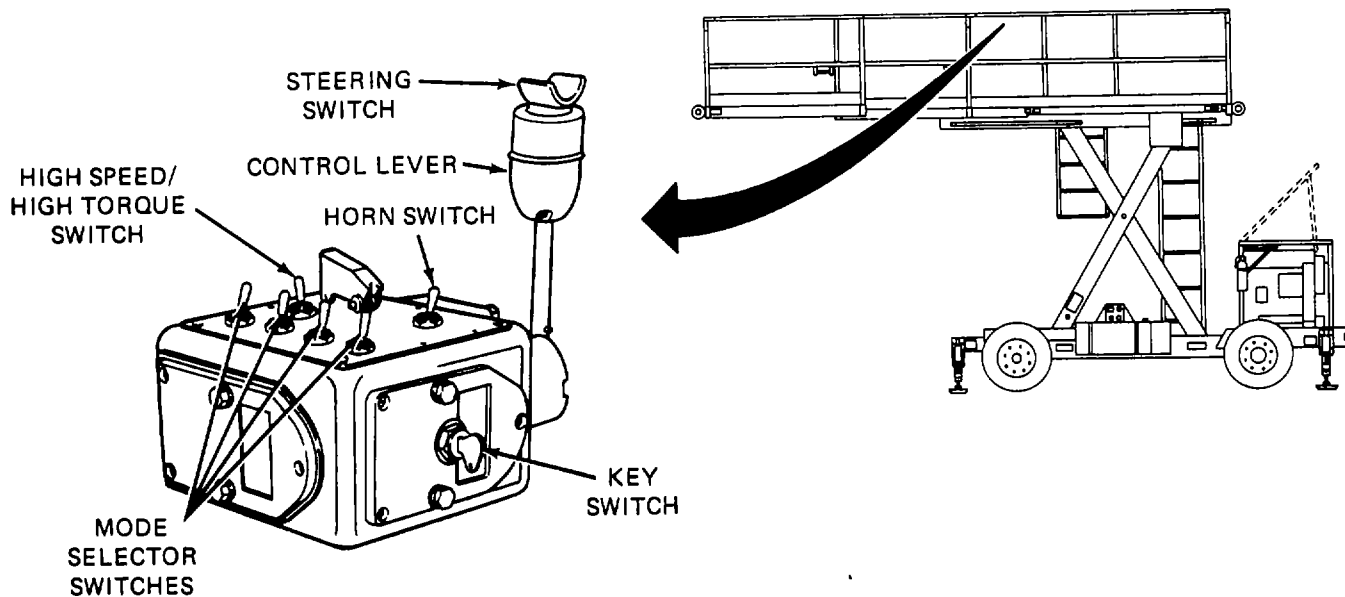
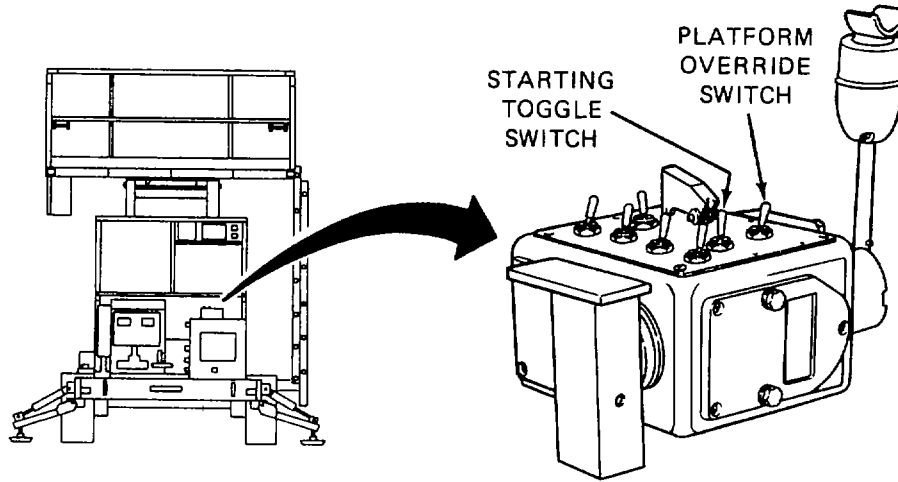

Figure 2-1. Operator's Controls Located on Platform (Platform Control Box).
Figure 2-2. Operator's Controls Located On Base (Base Control Box).
(a) The platform control (Figure 2-1) contains a key switch for engine starting whereas the base control (Figure 2-2) uses a spring loaded toggle type starting switch.
b. Controls. The operator's controls (Figures 2-1 and 2-2) are listed below.